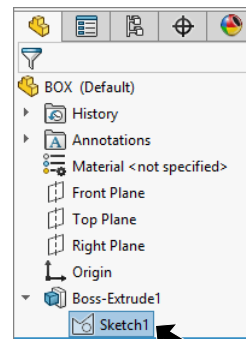

Fig. 8
Step 1. Expand **Boss-Extrude1** in the Feature Manager and click **Sketch1** to select sketch, **Fig. 8**.